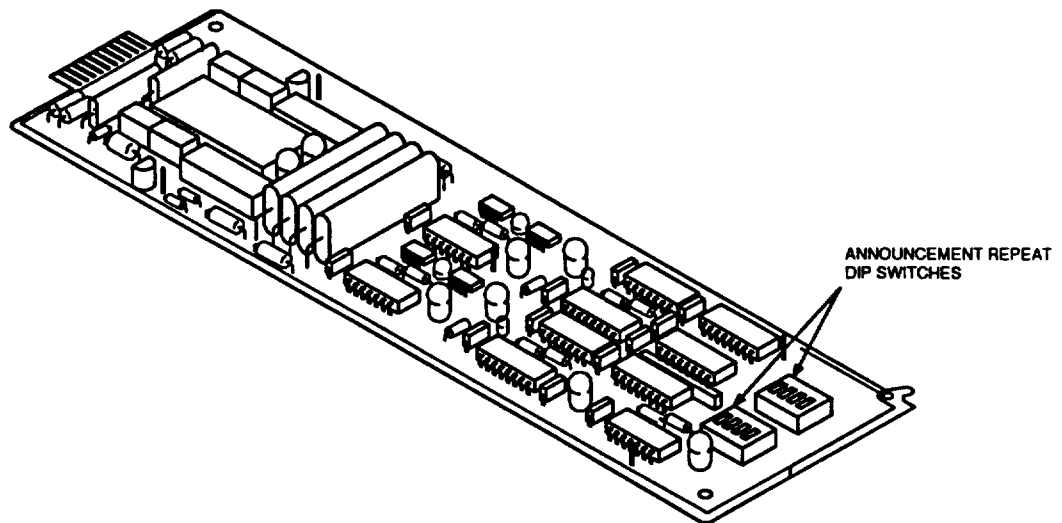

Figure 4. 14A Announcement System AWH1 Circuit Pack
2.03 If the circuit is to be used for connection to a 2-wire telephone line, as in a 5ESS® switch Remote Switching Module (RSM), the AWH1 (Figure 4) circuit pack must be included with one ALD1/ALD2/ALD5 circuit pack for a 1-channel operation or a combination of two ALD1s/ALD2s/ALD5s for a 2-channel operation. ALD1, ALD2, and ALD5 are compatible and interchangeable and may be combined to provide the user with record/reproduce and/or playback-only announcement service.